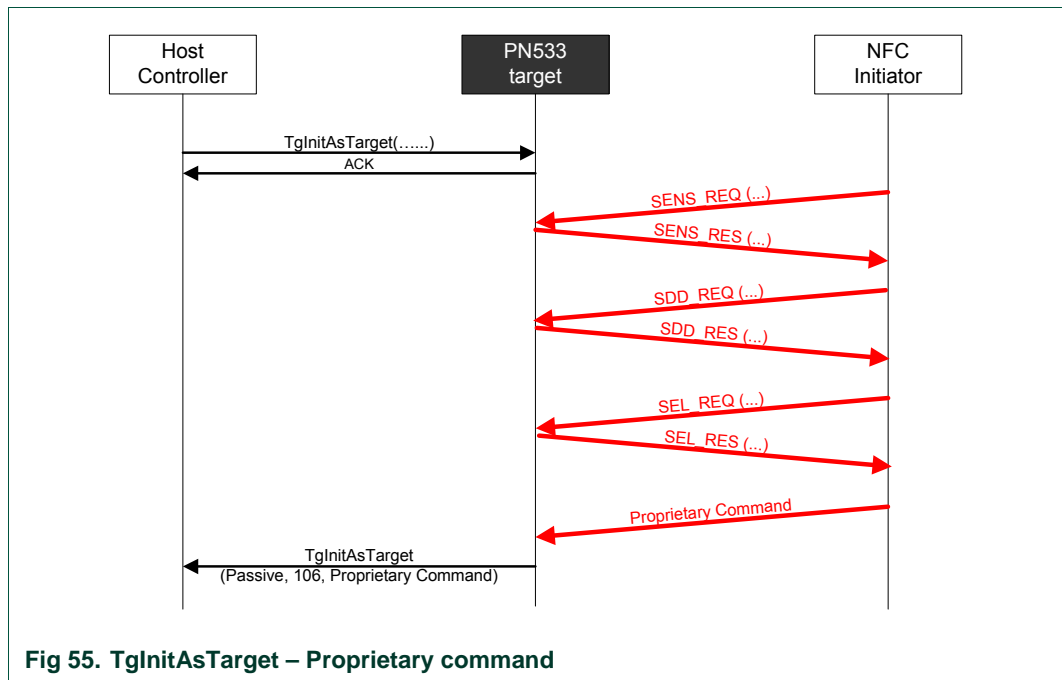

Fig 55. TgInitAsTarget – Proprietary command
- *proprietary command*: the PN533 does nothing with this command (example in Fig 55).
- o *proprietary command*: the PN533 does nothing with this command (example in Fig 55).